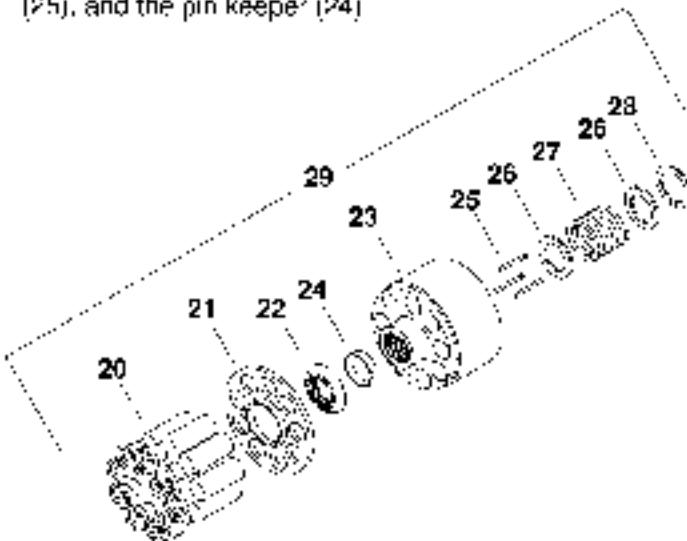

Figure 1
- 1 Clamp the end of the drive shaft in a protected jaw vise with the body of the pump up and remove the four cap screws (34) from the pump assembly.
- 2 Use a plastic mallet and tap the adapter assembly (52) to loosen it, then pull the adapter straight up until it is free.
- 3 Remove retainer (60), spring (59), and cap nut (58) from adapter assembly.
- 4 Remove the two check valve assemblies (53) from backplate (33). Pin (57) is a loose fit. Caution must be taken when removing check valve assembly so that pin (57) and ball (56) are not lost.
- 5 Remove outer gearotor (49), inner gearotor (47), and key (48) from backplate (33). From front pump of tandem remove coupler (45) and lock ring (46).
- 6 Use screw driver slots in housing and pry up on backplate (33) or tap with plastic mallet to loosen, then pull the backplate straight up to remove. Remove gasket (31).
- 7 Remove tow valve assembly (39A) or plug (39) from backplate. Remove retaining ring (40) from spreader (43), and pull spreader from spreader plug (41).
- 8 Remove plug assembly (35), spring (37), and relief valve assembly (38).
- 9 Remove pump from vise and remove rotating assembly (29) from pump housing.
- 10 If pistons (20) did not come with piston block, you may remove them, soider (21), and spider pivot (22). See Figure 1.
- 11 The disassembly of the piston block assembly (23) is not required unless the pins (25) or spring (27) are possibly damaged. See Figure 1.